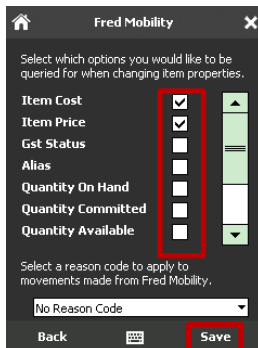

FIGURE 4: GENERAL OPTIONS SCREEN
- 2) Select the checkbox options you wish to be prompted for or deselect the checkbox options to not be prompted (Figure 4). You must tap **[Save]** for changes to take effect.